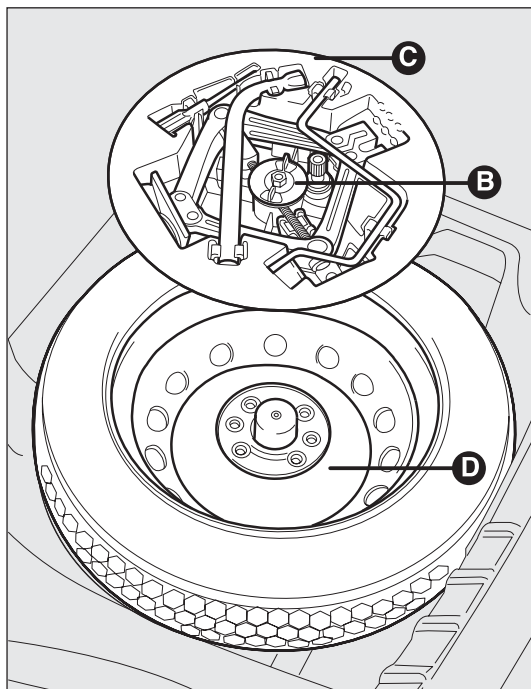

fig. 122
- ☐ loosen the clamping device B-fig. 122;
- ☐ stow the space-saving wheel D-fig. 122 in the space provided in the boot;